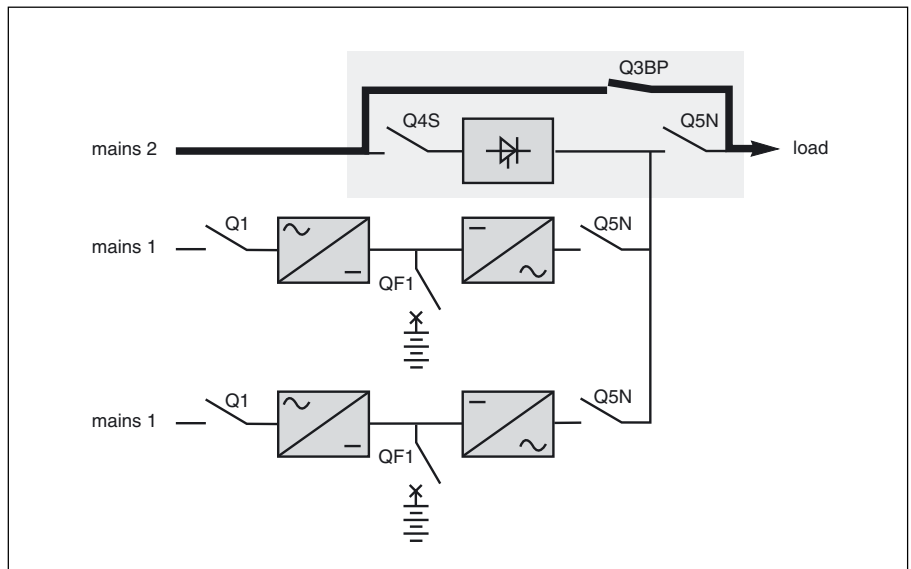

Fig. 33
- open switches Q5N, then switch Q4S on all the UPSs (figure 33).